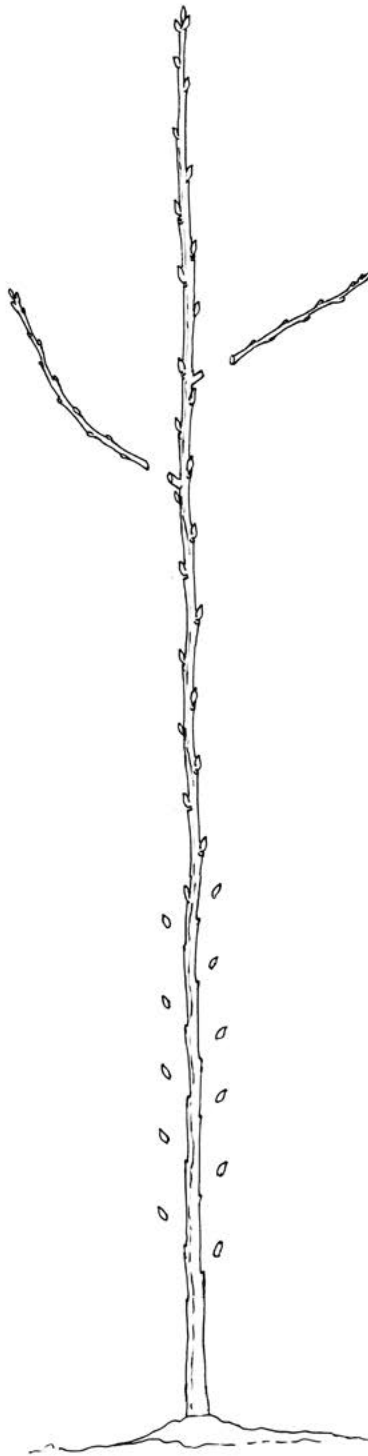

Figure 54
- Remove any side branches by cutting back to the most basal (bottom) vegetative bud (Figure 54).
- Remove any buds below about 1.5 feet (can be rubbed off) (Figure 54).